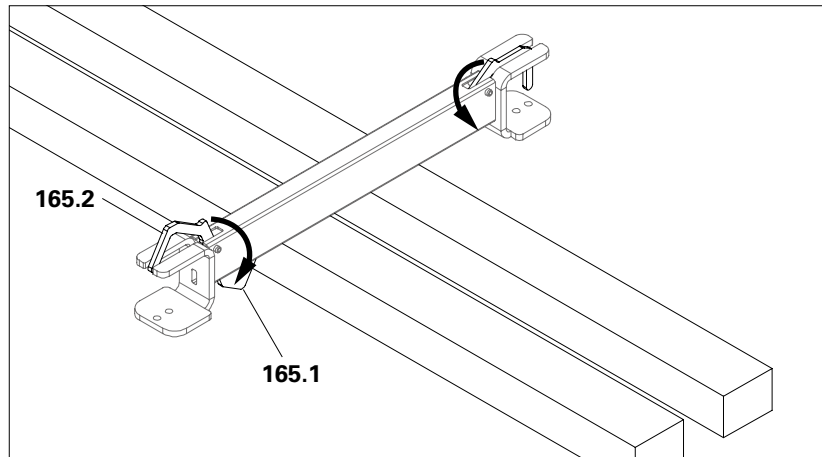

Fig. A7.03a
1. Turn the deck traverse to the head side so that the grips (**165.1**) of the drop ledger (**165.2**) protrude. (Fig. A7.03a)